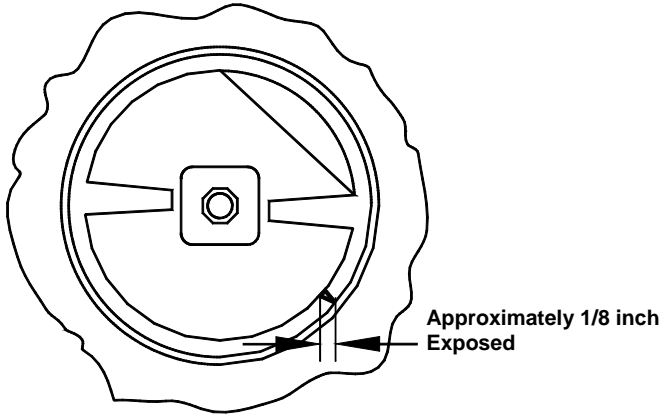

Fig. 17
- h. While maintaining force against the dasher, rotate it slowly until the tongue of the dasher engages the groove in the drive system at the rear of the cylinder. The outer most portion of the dasher should be recessed approximately 1/4" (6 mm) to 3/8" (10 mm) inside the freezing cylinder. No part of the dasher should extend outside the cylinder. Scraper blades should be visible, extending approximately 1/8" (3 mm) beyond the dasher (Fig. 17).